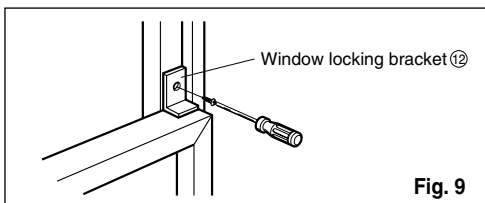

Fig. 9
12. Attach the window locking bracket ⑫ with a type C screw. (See Fig. 9)